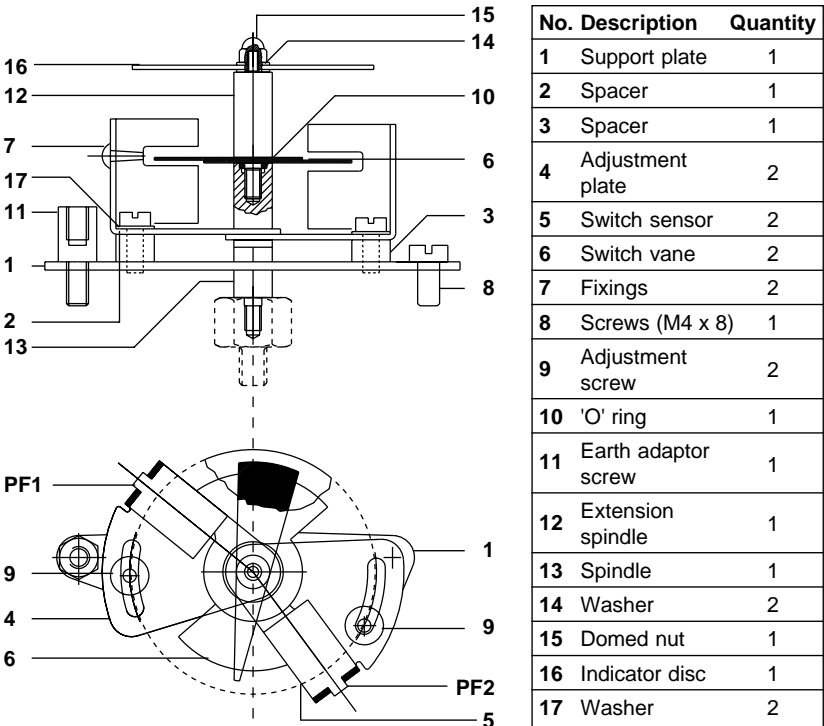

Fig. 6 General assembly
2.3.1 Fitting of Pepperl and Fuchs switch assembly. Refer to Fig. 5 for components and Fig. 6 for general assembly.
To achieve fine adjustment it is necessary to have some form of switching indicator device across terminals 1 and 2 for **PF1** and terminals 3 and 4 for **PF2**. Adjust the valve travel position of **PF1** switch sensor (5). If fine adjustment is required it can be achieved by loosening the adjustment screw (9) and sliding the adjustment plate (4) in either direction to achieve the desired switching position. Tighten the adjustment screw (9) to secure the setting. This exercise should be repeated for the **PF2** switch whilst maintaining the previous setting position of switch **PF1** (refer to Fig. 6).